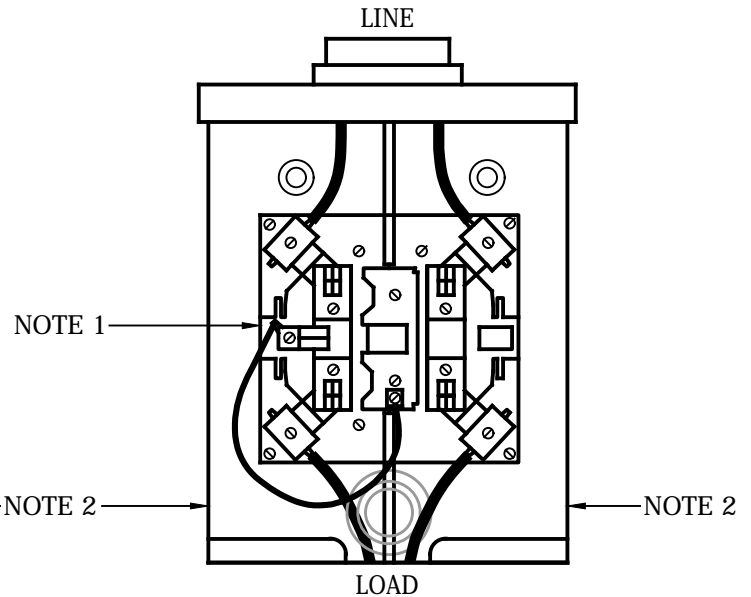

FIGURE 2
1. For Figure 2, install 5th terminal, jaw in the 9 o'clock position and connect to neutral connection with #12 THHN or THW, solid copper **wire, white in color**.